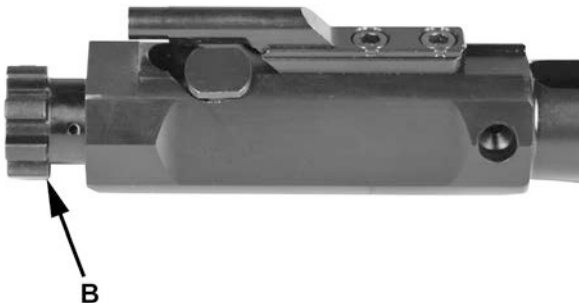

Figure 30
3. Push the bolt assembly (B) into the bolt carrier to the locked position as illustrated in figure 30.